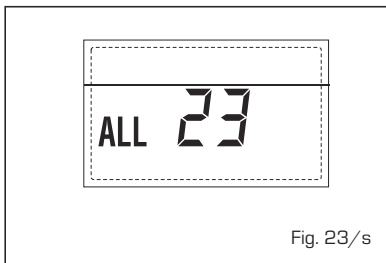

Fig. 23/s
**- ANOMALÍA AVERÍA SONDA COLECTOR SOLAR S1 "ALL 24" (fig. 23/t)**